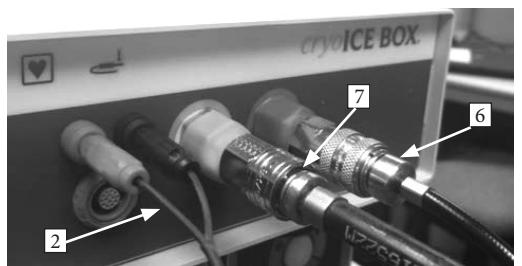

FIGURE 3 PROBE RETRACTION
6. Retract the PROBE handle and rigid PROBE shaft to expose Malleable Section of PROBE. See Figure 3: Handle and Rigid PROBE Shaft Retraction.